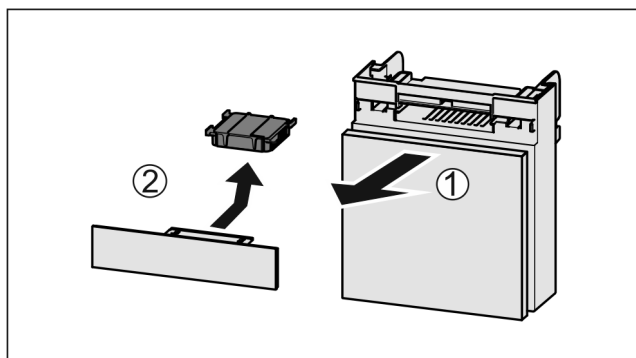

Fig. 49
- ▶ Pull out the compartment Fig. 49 (1).
- ▶ Remove the carbon filter Fig. 49 (2).